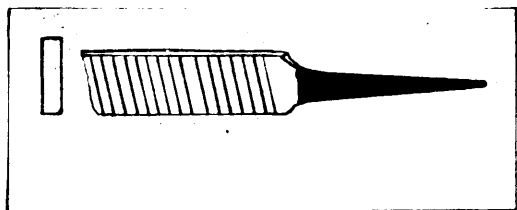

Figure 1.
1. Flat, as shown in Figure 1, 2 and 3.